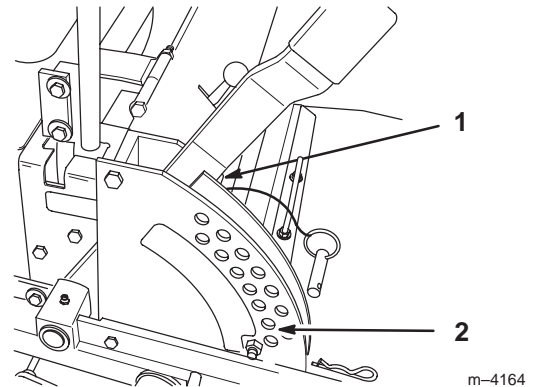

Figure 58
- Raise the deck to the transport position and take all force off of the two large deck lift springs by loosening nut in front of each spring (Fig. 58).
- Place two 1-1/2 inch (38 mm) thick blocks under rear left and right lower edge of mower. Place one 2-1/4 inch (57 mm) block under front center lower edge of mower. Lower mower to the 2 inch (51 mm) height-of-cut position (Fig. 58).
1. Raise deck lift lever to the transport position (Fig. 58).